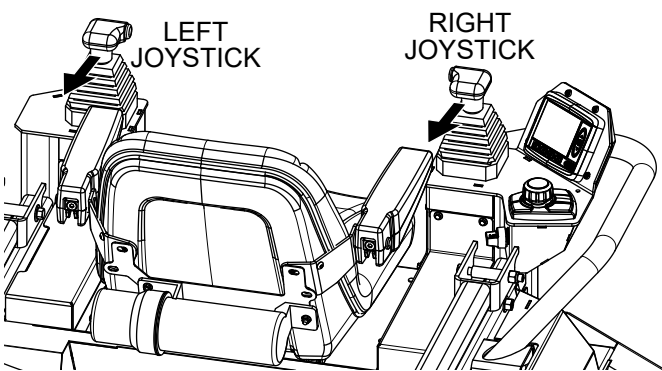

Figure 48. Joysticks (Reverse)
8. Pull both the left and right joysticks backward (Figure 48) and repeat steps 3–4 while substituting the word *reverse* for *forward*.